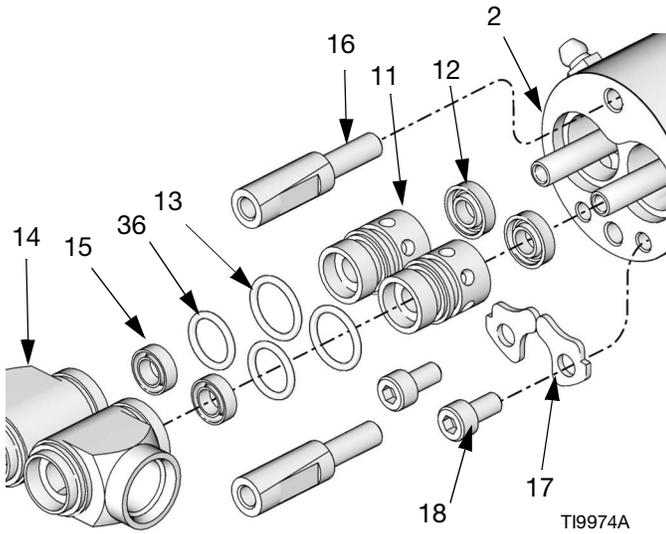

FIG. 7
5. Remove the two fluid housing screws (18) and clamps (17) from the fluid housing (14). Slide the fluid housing (14) off of the air cylinder (2). See FIG. 7.
- Remove the bearings (11), bearing o-rings (36, 13), and secondary fluid seals (12, 15).
1. Lubricate the bearings (11), o-rings (13, 36) and seals (12, 15). Put the o-rings (13, 36) on the bearings. Carefully insert the seals (12) into the bearing recess, with the lips of the seals facing into the bearing. Insert the seals (15) into the bearing with the spring facing out of the housing. Be careful not to damage the seal lips. See FIG. 7.
2. Push the bearings (11) into the air cylinder (2).
3. Grease the fluid housing (14) and install over the bearings (11). Install the clamps (17) and screws (18). Tighten to 25-30 in-lb (2.8-3.4 N•m).
4. **255180, 255182, 255900, 255901, and 255902**, insert the gaskets (28) and seats (27).